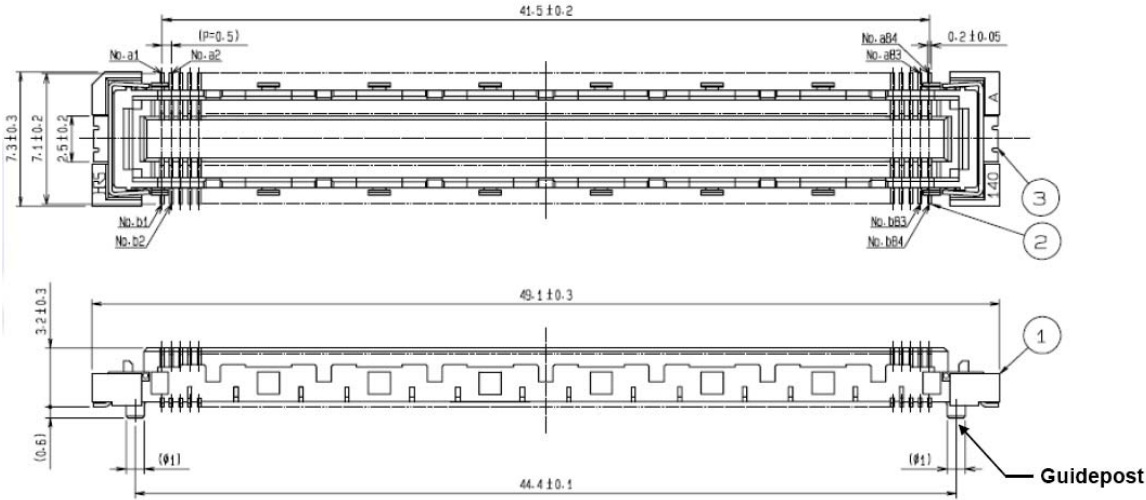

Figure 11: Hirose FX10A-168S-SV(83) Receptacle Connector Assembly
The MSA-100GLH electrical connector is the Hirose FX10A-168S-SV(83) receptacle connector assembly[N3] illustrated in Figure 11. Pin orientation is also indicated in Figure 11. The Hirose FX10B-168S-SV(83) receptacle is also an option for the MSA-100GLH electrical connector.